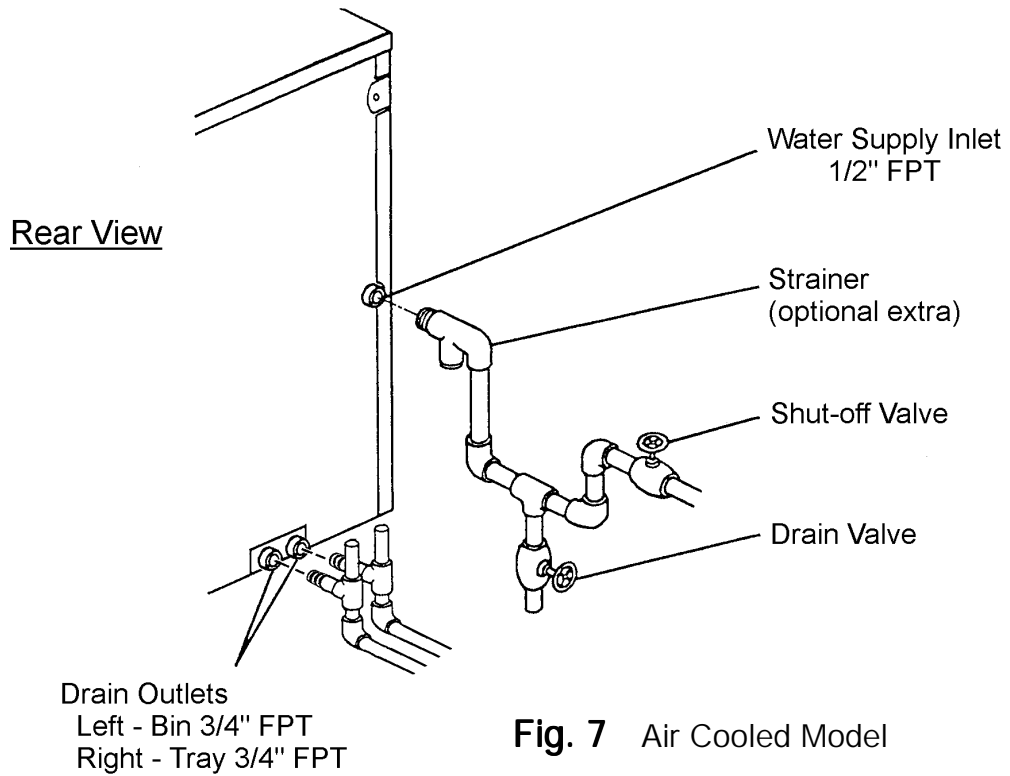

Fig. 7 Air Cooled Model
7. WATER SUPPLY AND DRAIN CONNECTIONS - See Fig. 7 and 8